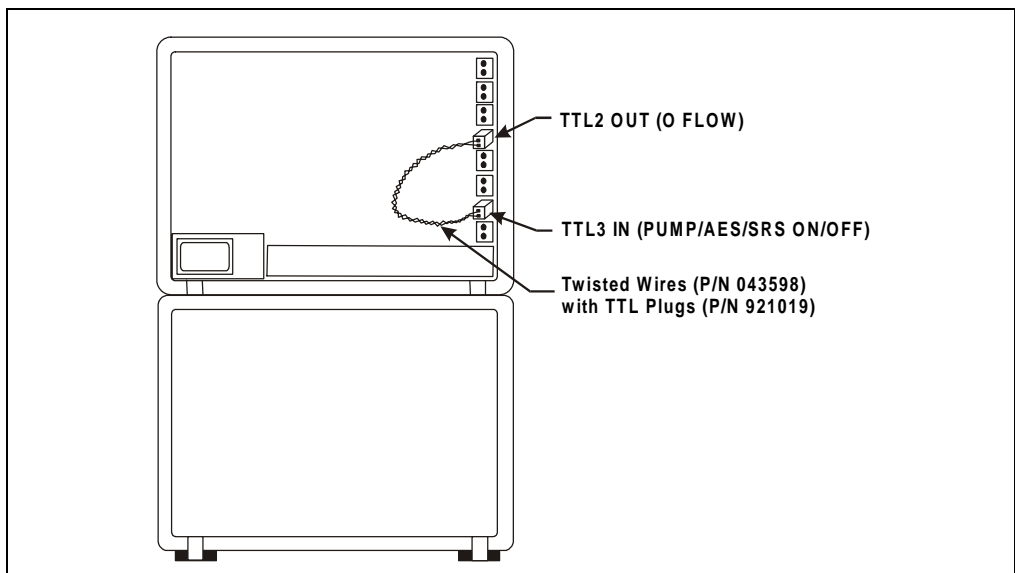

Figure B-9. TTL Connections for Suppressor Power Control
5. Plug one end of the cable into **TTL2 OUT** on the IC25A (see Figure B-9). Plug the other end of the cable into **TTL3 IN**.